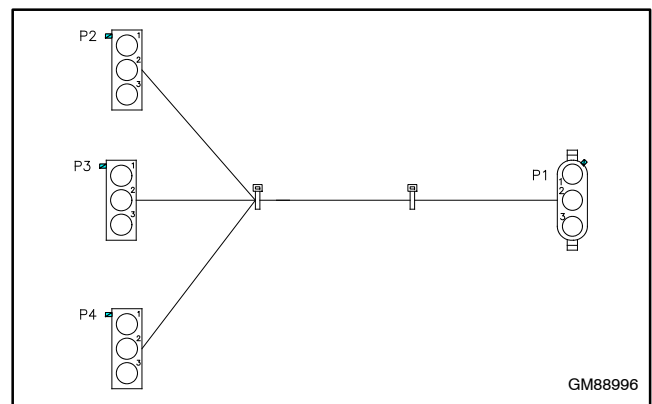

Figure 7 Adapter Harness GM88996 for 240VAC Accessories
18. If multiple 240 VAC accessories are installed (typically this battery heater, the fuel regulator heater for 20 kW models, and/or a carburetor heater), connect P1 of adapter harness GM88996 to the 3-pin power connector. See Figure 7. Connect P2, P3, and P4 of harness GM88996 to the battery heater power cord connector and other 240 VAC accessories.